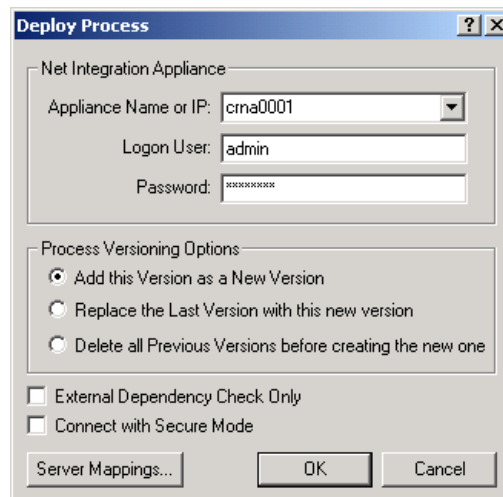

Figure 28-42. Deploy Process dialog with the device selected.
- ❶ You've now completed the model, checked and fixed any errors, and you are ready to implement your model. Click **Deploy** on the toolbar
- ❷ Select the name of your Syncx appliance from the drop-down list. This is the appliance to which you are deploying your new CRbuilder process. Please check with your system administrator if you aren't sure of your appliance's name.
- ❸ Enter your username and password (see Figure 28-42, below). Check with your system administrator for valid usernames and passwords.